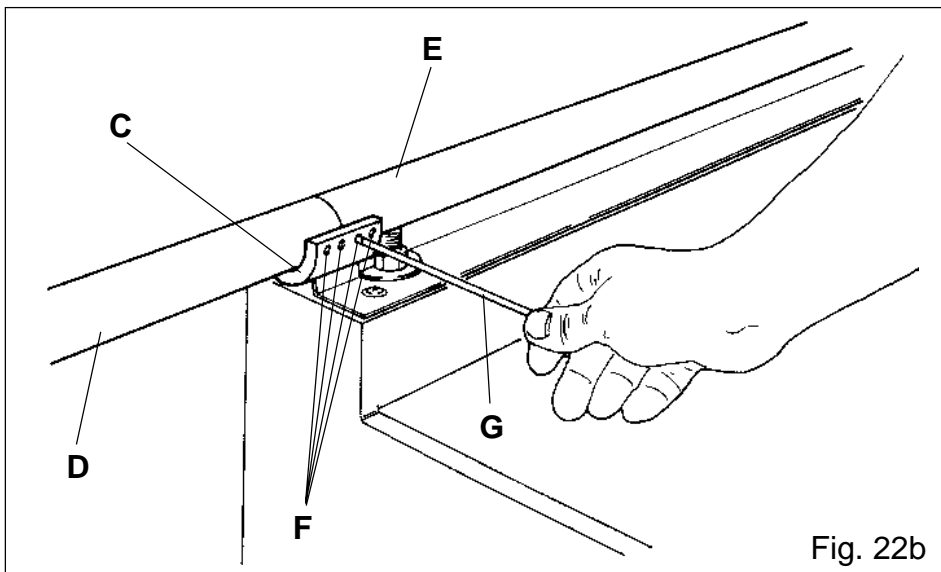
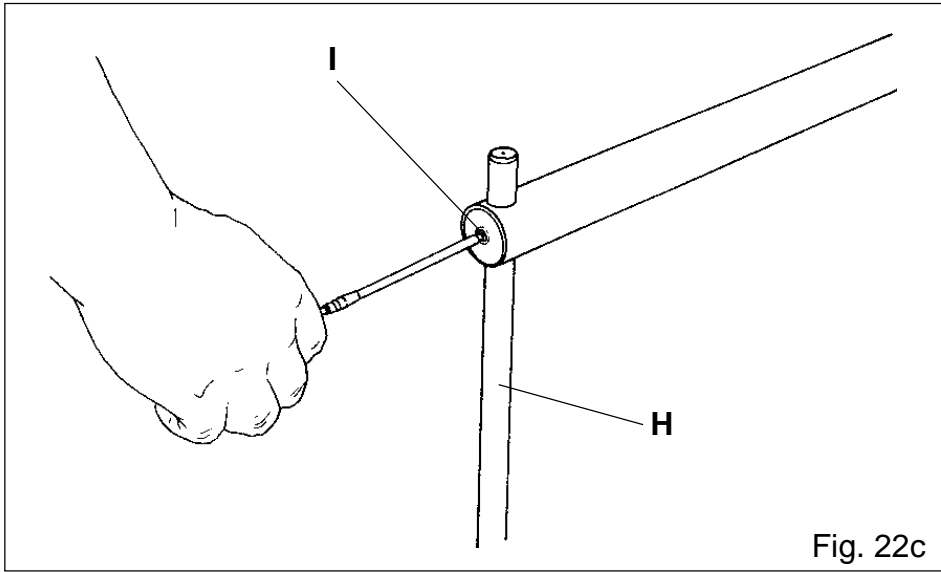

Fig. 22b
Fig. 22c
- 3° - Fix the connection C (fig.22b) to the guide E (fig.22b) of the machine, blocking the screws F (fig.22b) with the spanner G (fig.22b).
- 4° - Place a square over the two guides, checking their linearity, then blocking the support H (fig.22c) of the mobile guide D (fig.22b) with spanner I (fig.22c).